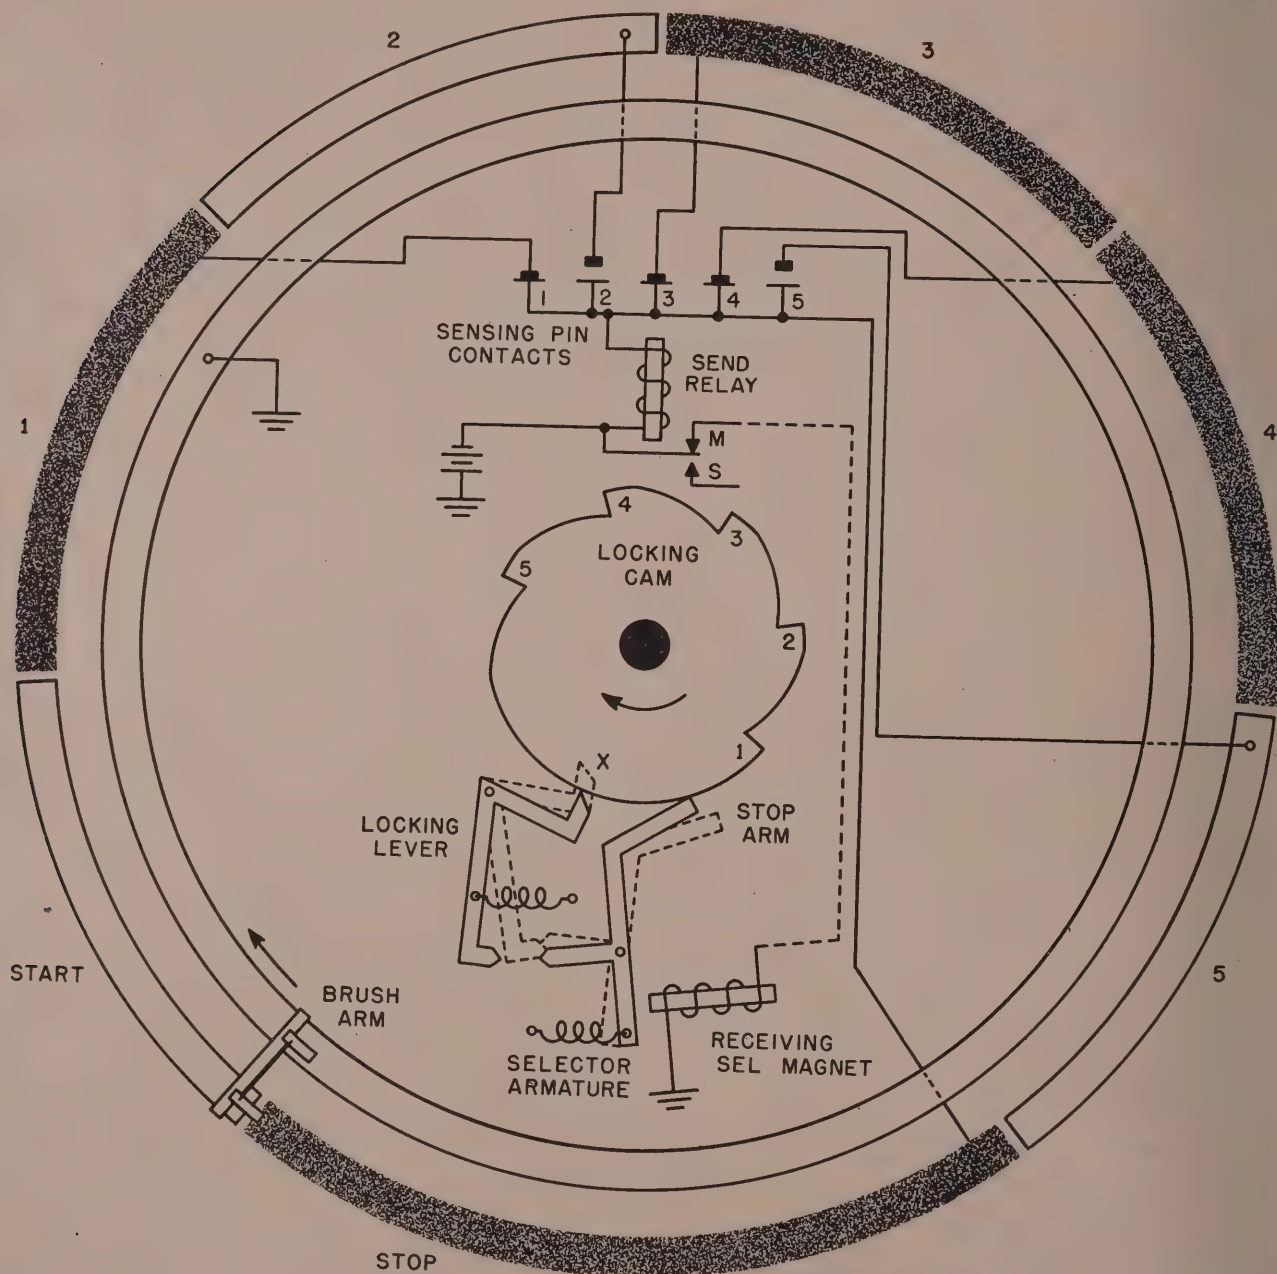

Figure 9. Teletypewriter signal generation and reception.
a. Figure 9 is a simplified schematic diagram of the sending and receiving circuits of a teletypewriter. The outer segments represent the seven segments of a distributor which also has an inner single-segment ground ring. The seven outer segments may be identified as
d. The code pulses, as received from the line facilities, are presented to the receiving selector magnet one at a time. This magnet, in turn, positions the selector armature to a *mark* or *space* position through the tension of its associated spring. The marking position is illustrated by the solid outline (fig. 9) and the spacing position by the dotted outline of the selector armature. The locking cam is one of seven camming surfaces associated with the receiving cam sleeve. One end of the locking